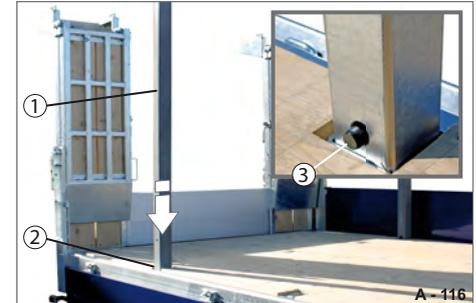

Fig. 171 Inserting the slot-in post
- ▶ Insert the slot-in post (Fig. 171/1) completely into the post pocket (Fig. 171/2).
- The slot-in post automatically engages in the post pocket and is secured with the integrated locking button (Fig. 171/3).